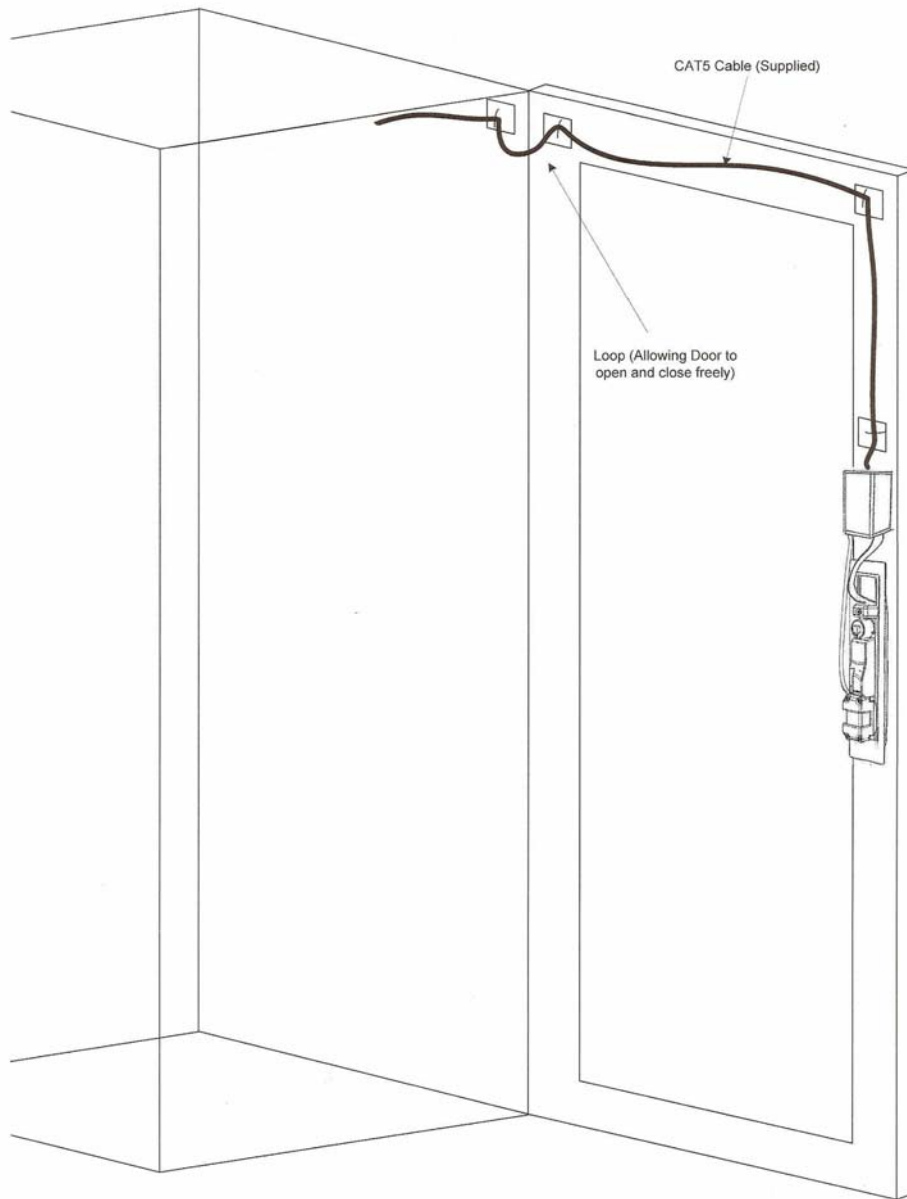

Figure 11
- Route the supplied CAT5 cable as show in Figure 11. Secure the CAT5 cable to the Tie Down Pads using the supplied cable-ties.